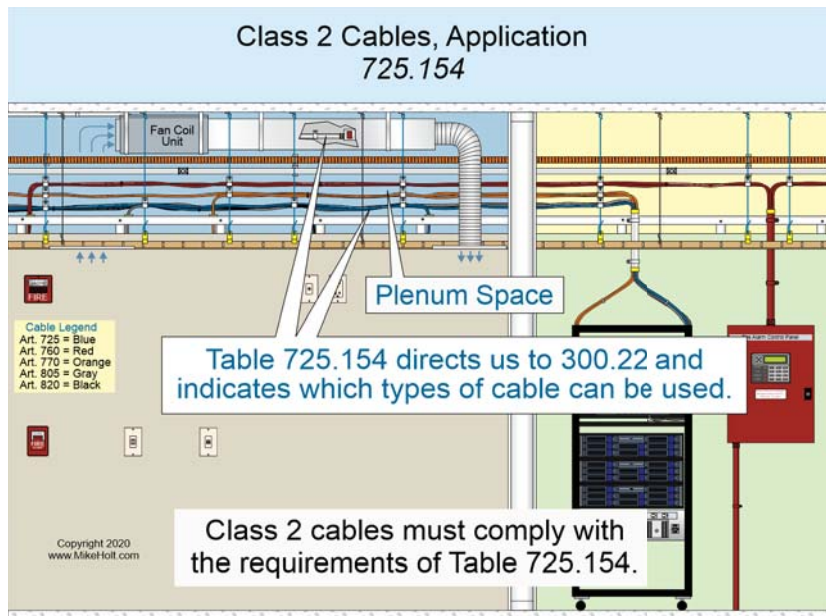

Fig. 3. Class 2 cables must comply with Sec. 725.154(A) through (C) and Table 725.154.
Class 2 cables must comply with Sec. 725.154(A) through (C) and Table 725.154 (Fig. 3).